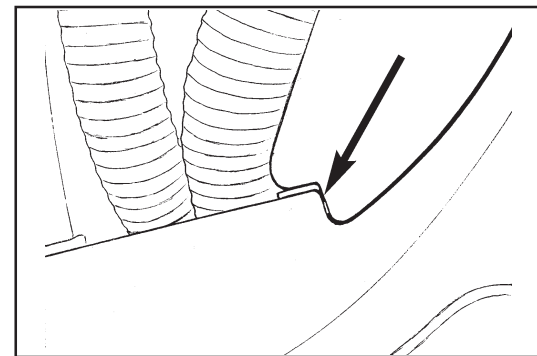

Figure 13A
12. Reinstall the recovery tank making sure the pivot pin in the recovery tank is installed under the metal plate on the solution tank (See figure 13A.)